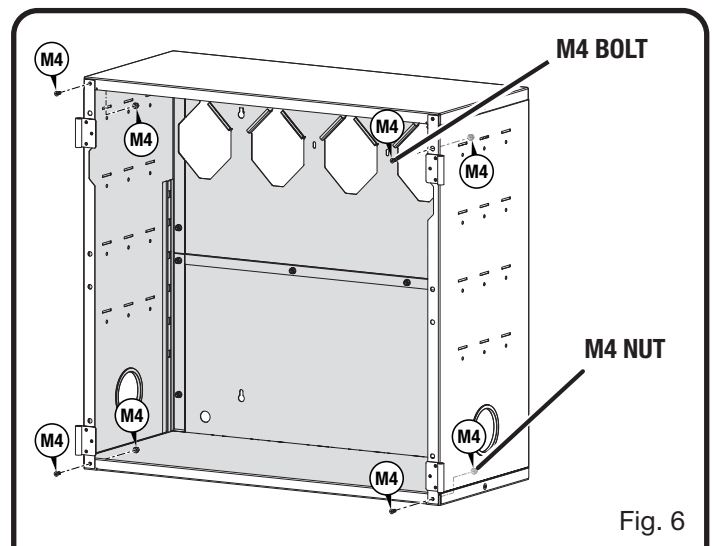

Fig. 6
- Insert M4 bolts (4) through the front facing corner holes of the cabinet as shown in Figure 6. Secure with M4 nuts (4).